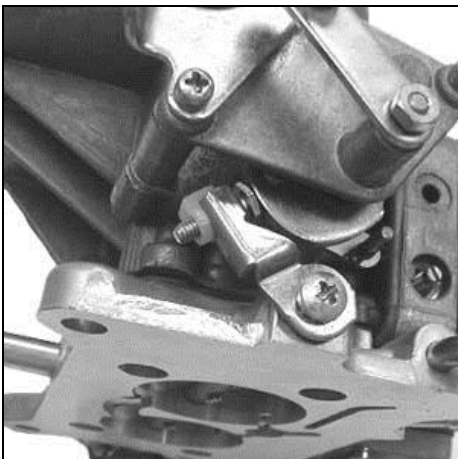

Figure 8A
1. If the fast idle RPM is too low or too high for your preferences, TURN THE ENGINE OFF. Advance the throttle to wide-open, exposing the fast idle set screw below the choke housing (See Figure 8A & 8B).